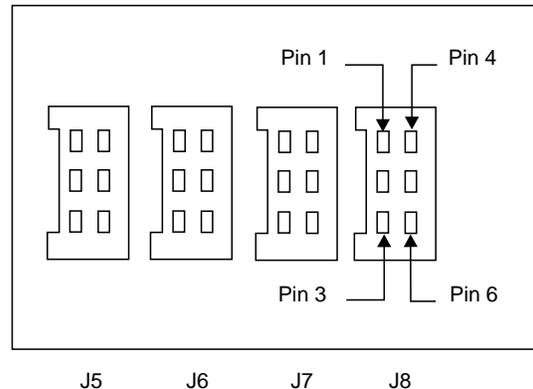

Figure 2-2. EPO Location 01S
- Check for 28 V between the frame ground and the back of the host connector which initiated the command at EPO 01S, pins 3 and 4. Refer to Figure 2-2 and to Figure 4-2 on page 4-4.